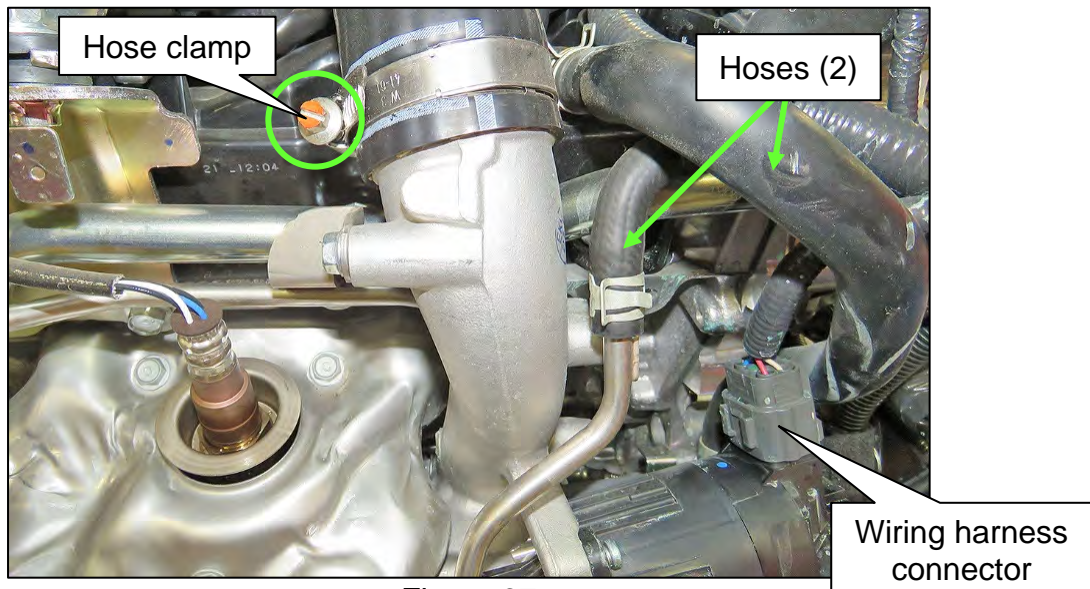

Figure 67
103. Tighten the hose clamp (Figure 67).
104. Reconnect the two (2) hoses (Figure 67).
105. Reconnect the wiring harness connector (Figure 67).